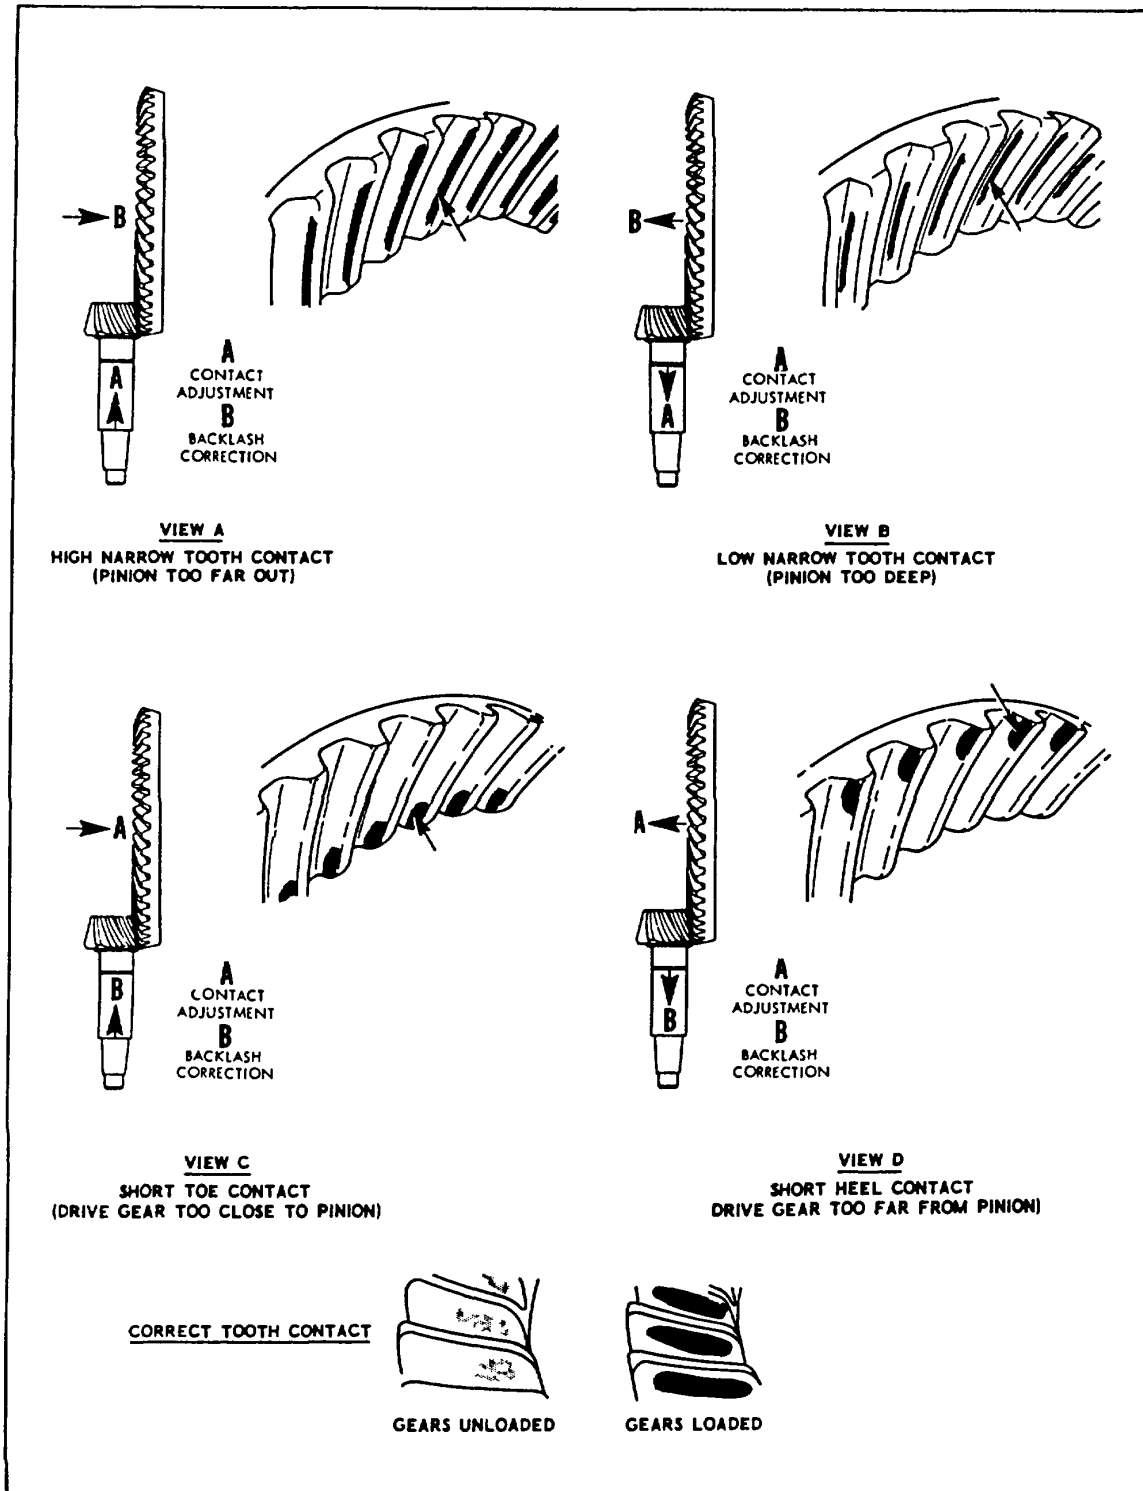

Figure 6-9. Drive Axle Ring and Pinion Gear Tooth Contact Patterns
3. Engage spur gear (68) with a pry bar, and turn it until differential has made one revolution in the forward direction.
4. Remove transmission from axle. Examine teeth of ring gear, and compare marks in red lead from pinion gear contact with examples shown in figure 6-9.
5. If marks in red lead compare with those shown in view A, figure 6-9, indicating high, narrow tooth contact (pinion too far out), adjust by removing one or more gaskets (14 or 18, figure 4-11) to move pinion in direction indicated in box adjacent to view A, figure 6-9. Transfer one or more gaskets (62 or 63, figure 4-12) from left side of differential housing to right side. Repeat steps (1) through (4) above to check results of adjustment.
6. If marks in red lead compare with those in view B, figure 6-9, reverse adjustment procedure given in step 5 above. Repeat steps 1 through 4 above to check results of adjustment.